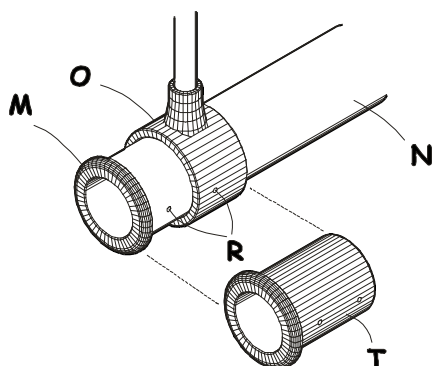

FIG. 4A
- To remove the old plastic axle end **M**, simply align the new plastic end **T** with the aluminum tube **N** on the outside in order to see how deep it extends inside the tube **N**. This will allow you to see which rivets need to be removed. (SEE FIG. 4A).